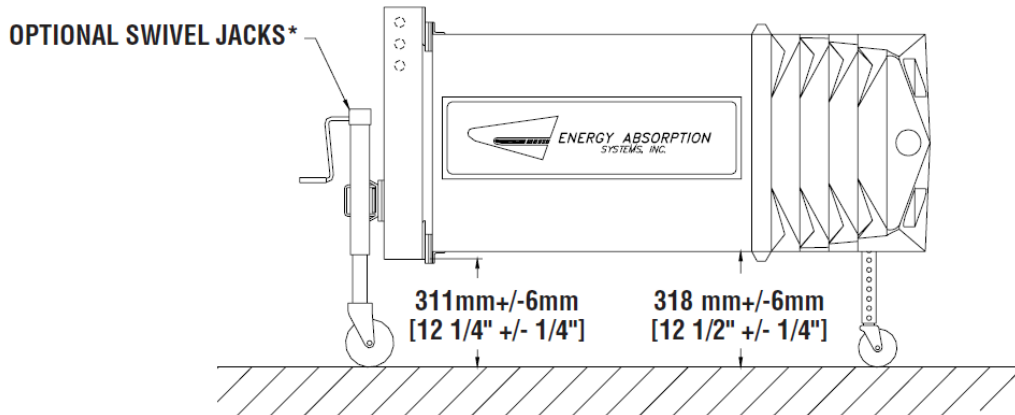

Figure 11
5. The TMA cartridge is shipped assembled to the backup. The first step in the installation process is to remove this assembly from the crate and make it mobile. This is accomplished by carefully removing the crating material and then if the two optional jacks are ordered (P.N. 2724230-0000) attach them to the backup (see referenced drawing no. 35-22-36). Once the jacks have been attached, the unit can be made mobile as shown in Figure 11.